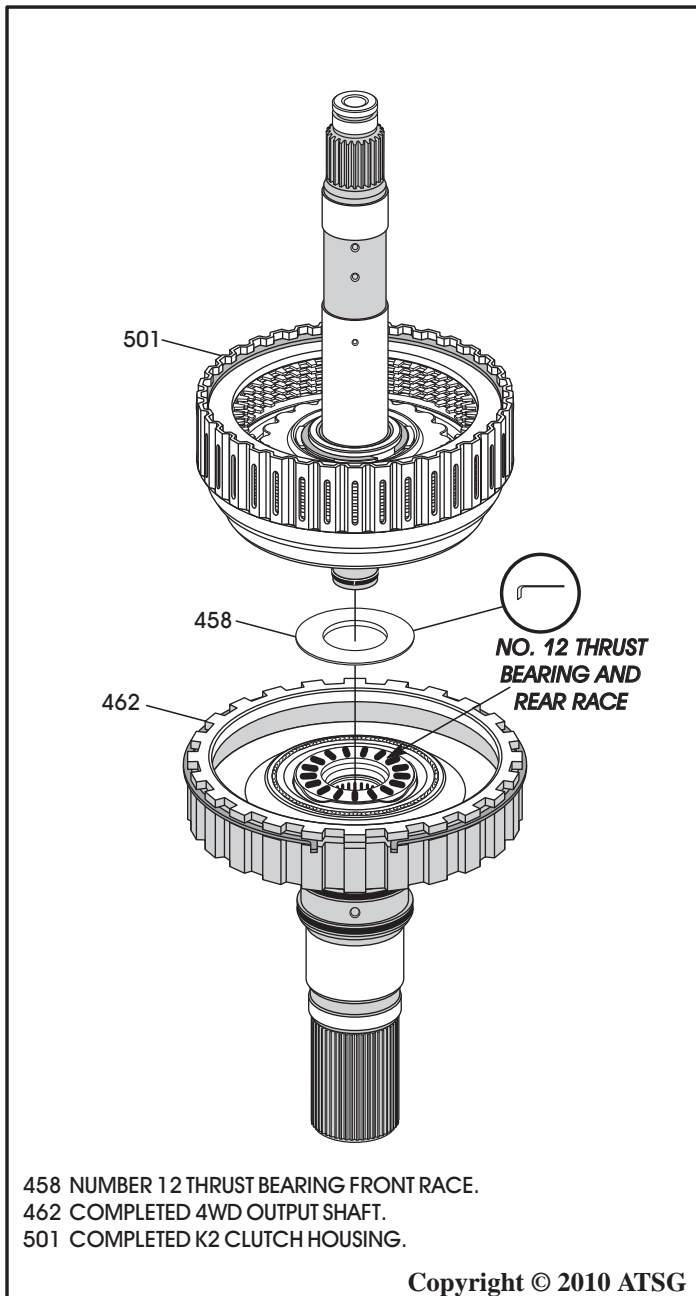

Figure 103
8. Ensure that the number 12 thrust bearing *front* race is still stuck to the K2 clutch housing, as shown in Figure 103.
9. Install the completed K2 clutch housing onto the output shaft, as shown in Figure 103.